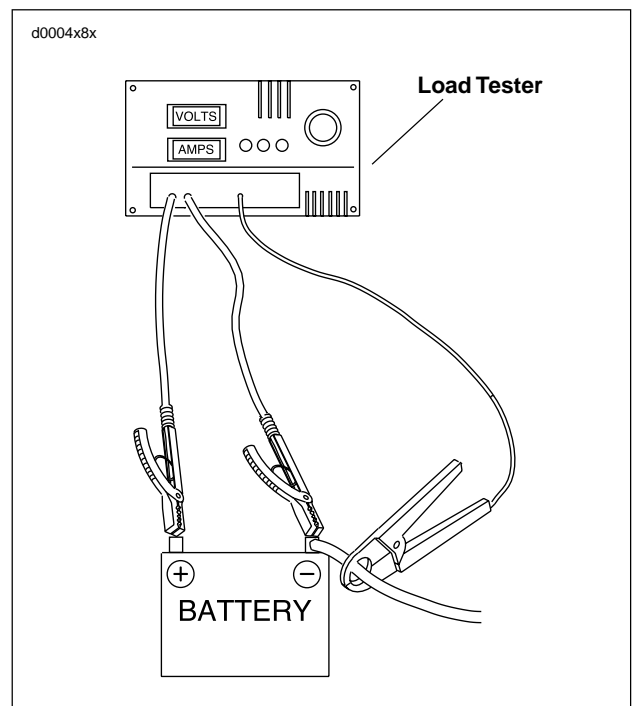

Figure 7-22. Check Current Draw (Ignition Switch On)
1. See Figure 7-22. To check for this condition, place load tester induction pickup or current probe pickup over battery negative cable.